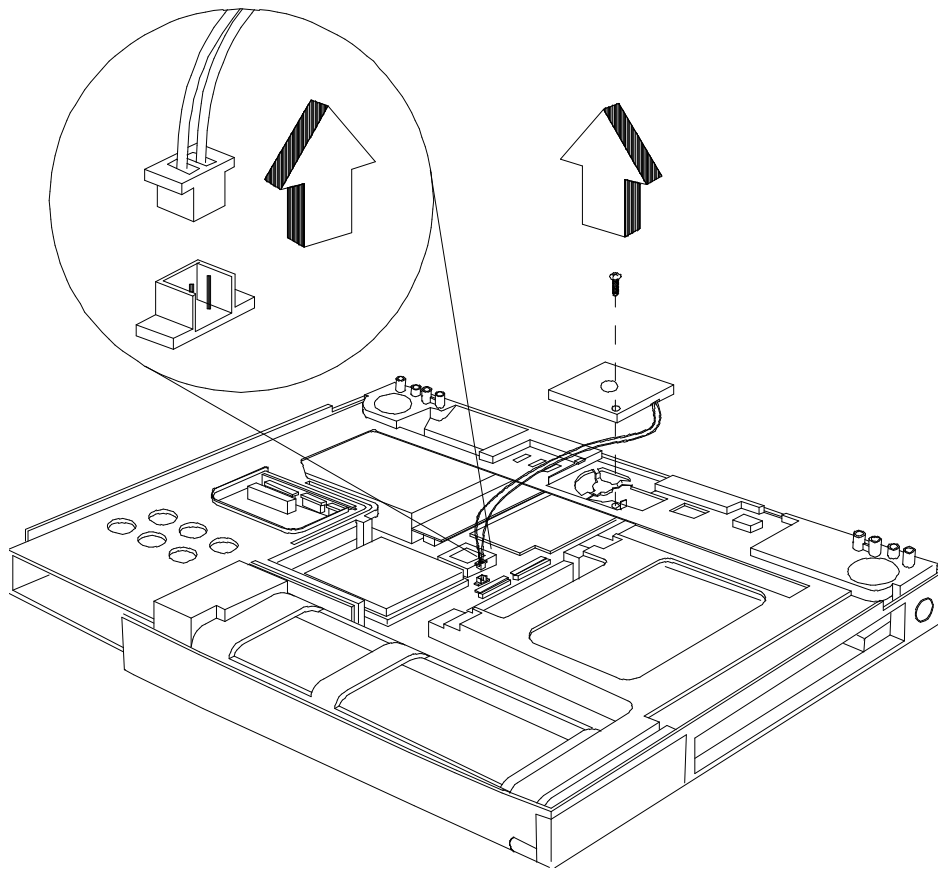

Figure 6-16 Removing/Replacing the Fan Assembly (60x Series)
2. Remove the single screw holding the fan assembly in place and unplug the fan cable as shown in Figure 6-16.